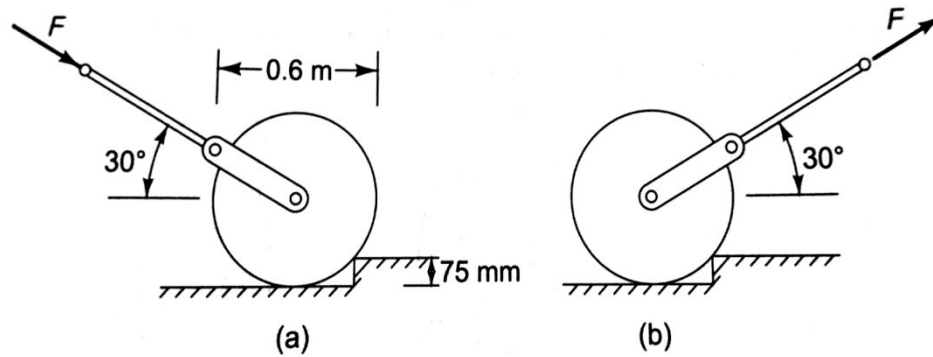

Figure 3
3. Compare the forces F required to just start the 900 N lawn rollers as shown in figure 3, over a 75 mm step when (a) the roller is pushed and (b) the roller is pulled.